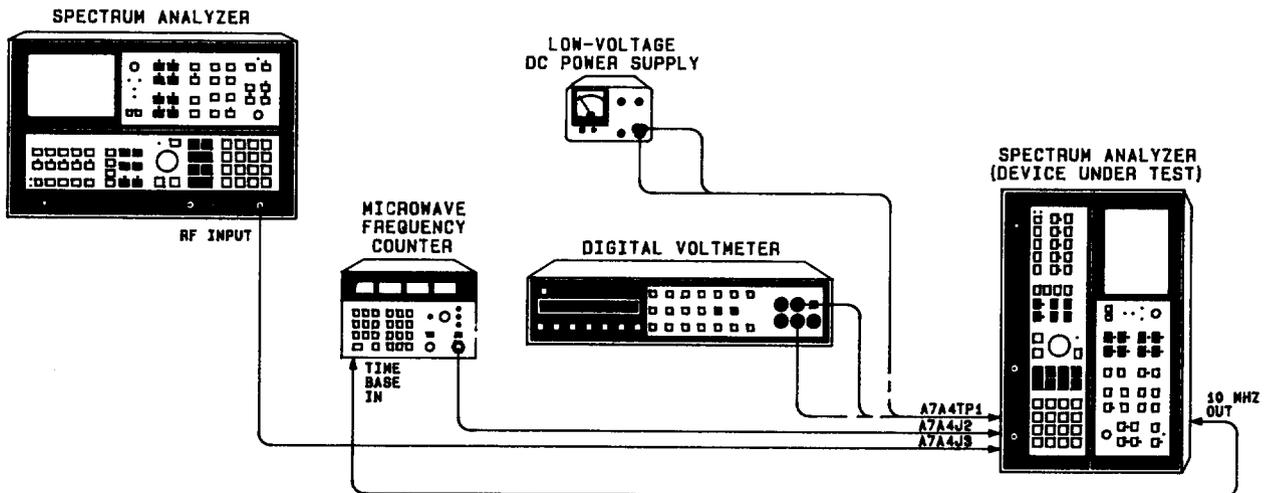

FIGURE 50. M/N LOOP ADJUSTMENT SETUP
1. Position instrument on right side as shown in Figure 50, with bottom cover removed.